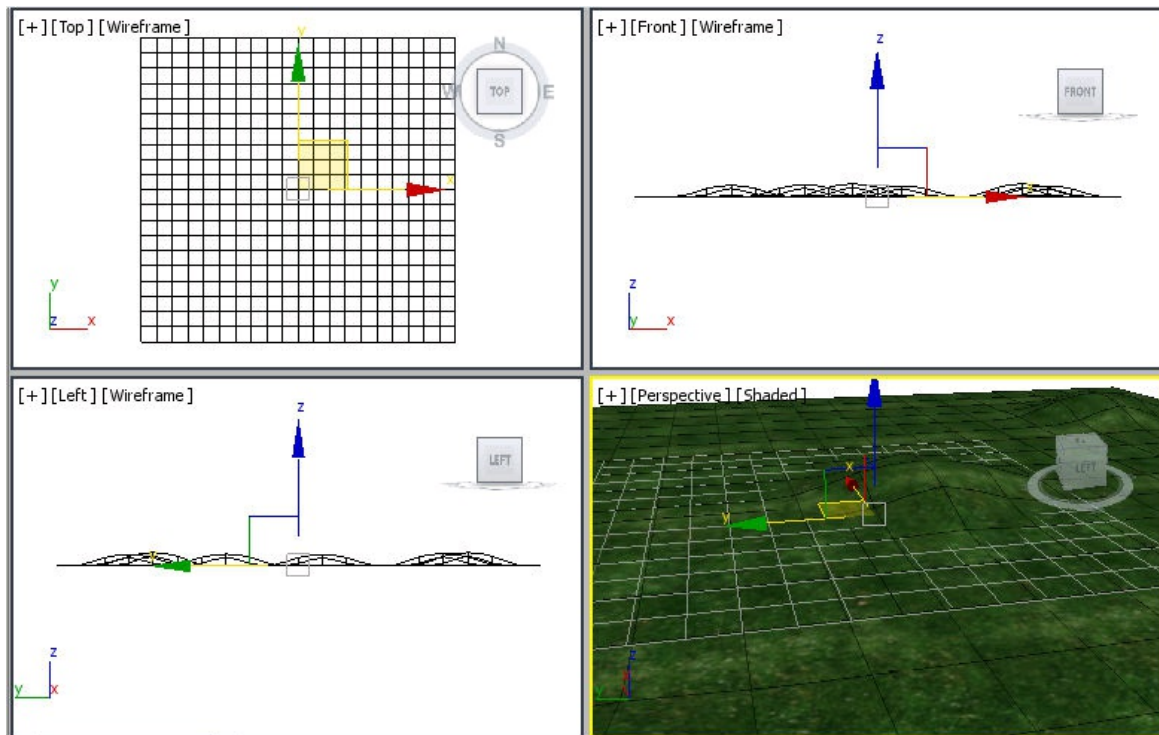

Figure 11-91 The plane after using the viewport navigation tools
13. Set the view of the plane in the Perspective viewport using the viewport navigation tools such as **Zoom**, **Orbit**, as shown in Figure 11-91.